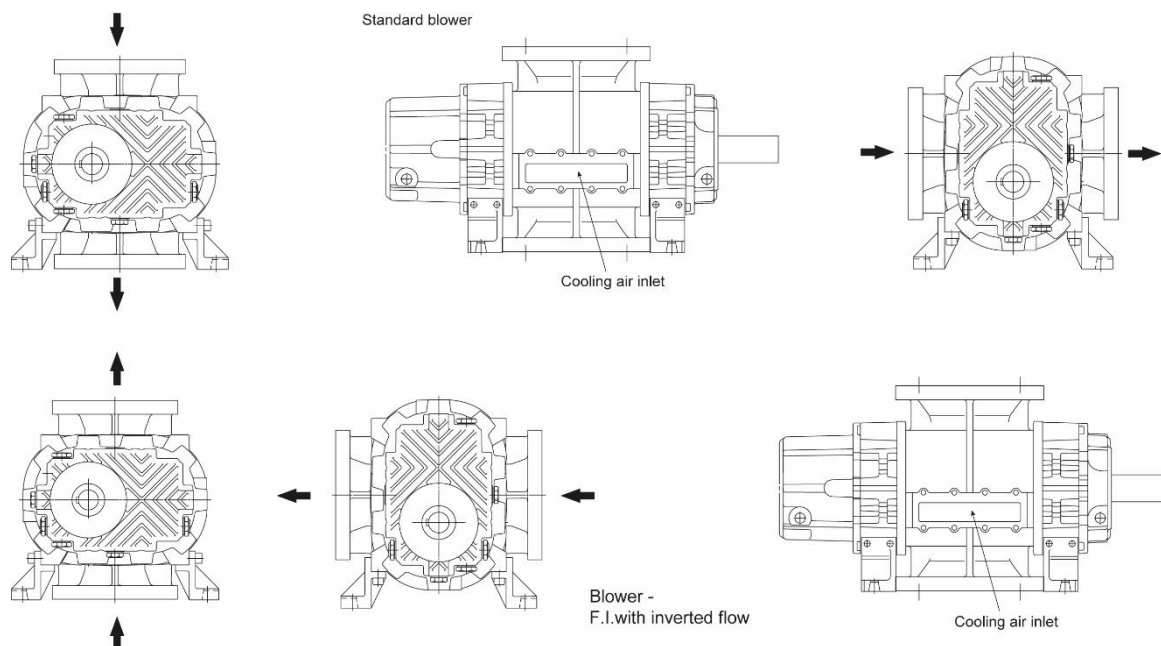

Figure 5
**Warning:** Do not use the blower with a direction of rotation or a flow direction different from that one shown in Figure 5.